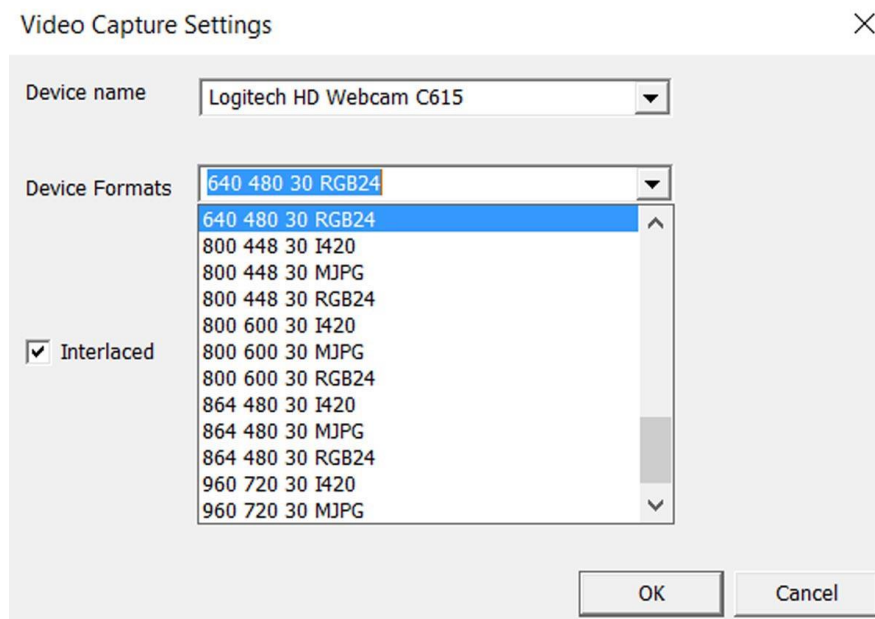

Figure 25 – The DEVICE FORMATS menu allows a number of possible values
- Now pull down the menu from the Video DEVICE FORMATS field as shown in **Figure 25**. Note that not all formats shown will be supported by a specific camera.